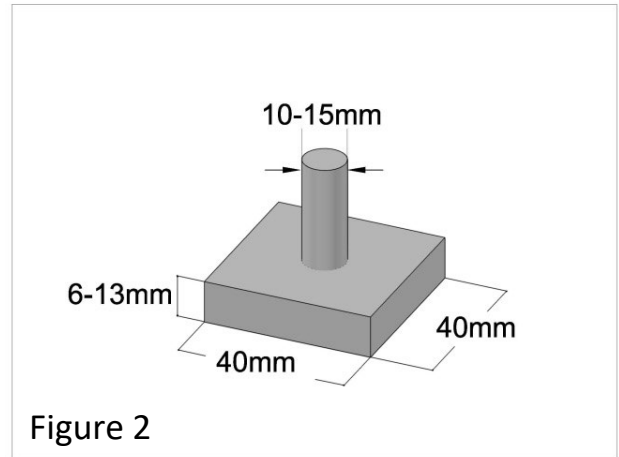

Figure 2
- b. The load will be applied from above by means of a 40-mm square by 6-mm to 13-mm thick plate. A 10-mm to 15-mm diameter loading rod will be attached to the center of the plate (see Figure 2). The plate will be horizontal, have a flat bottom and will not pivot on the loading rod.